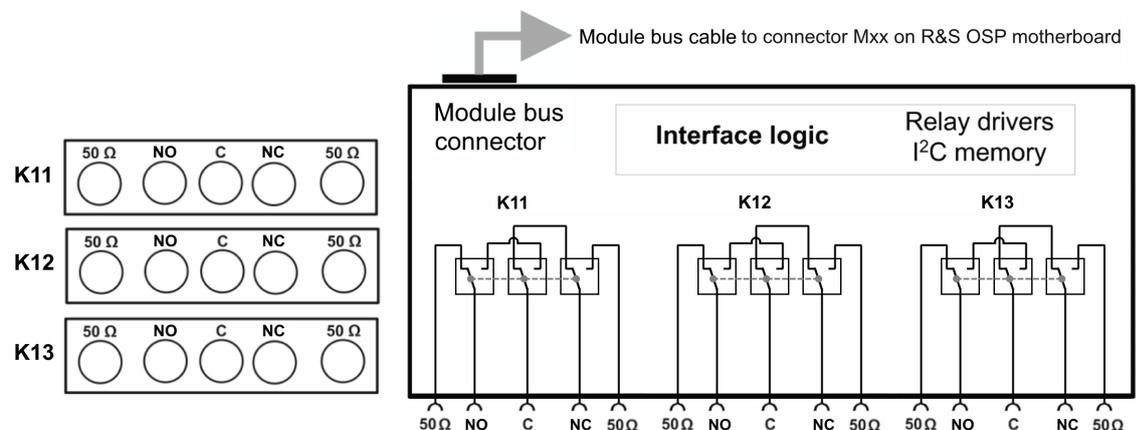

Figure 3-74: Pinout and block diagram of RF switch module R&S OSP-B121E
- **External** termination of the NO and NC ports, see Figure 3-74